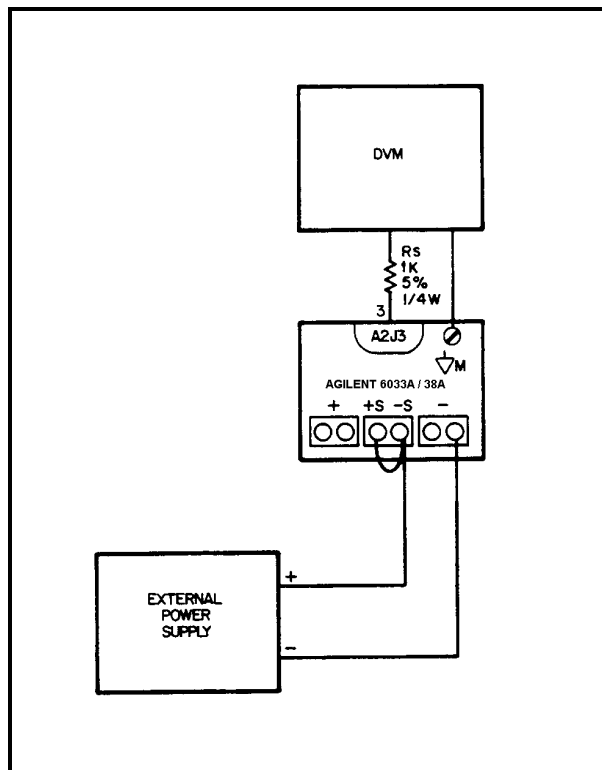

Figure 2-1. Common Mode Setup
- Remove both local sensing straps from rear-panel terminal block, and connect a 1-volt external power supply with its + lead to - S and its--lead to - Out. See Figure 2-1.
- a. Attach the DVM from  $\nabla$  M on the rear panel to A2J3 pin 3 (V-MON). See DVM connection in Figure 2-1.